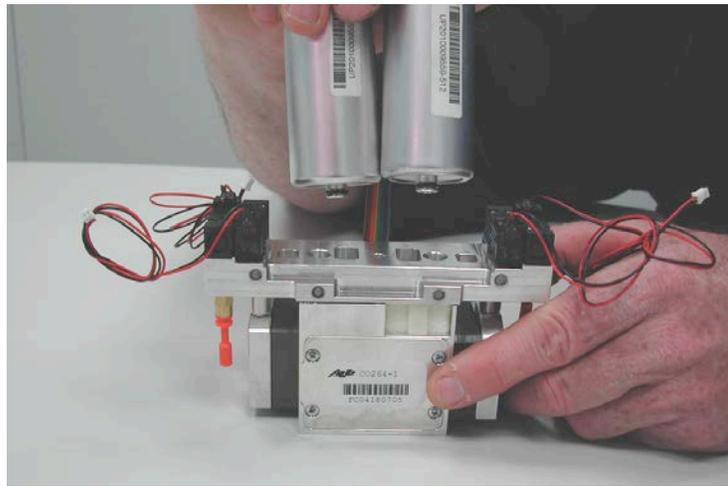

Figure 5.23
- Pull upward on the adsorbent beds to remove from the feed/waste manifold. (Figure 5.23)